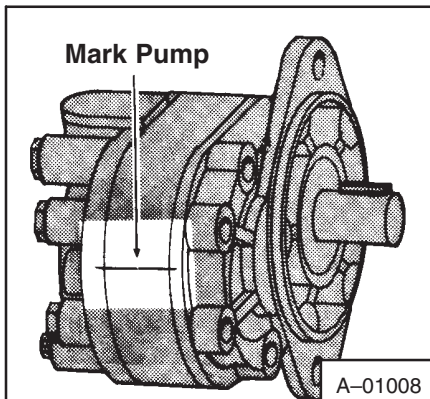

Fig. 77 Marking Pump
2. Thoroughly clean the outside of the pump. Scratch a line across the edges of the cover, gear plate and body to aid in assembly (Fig. 77).